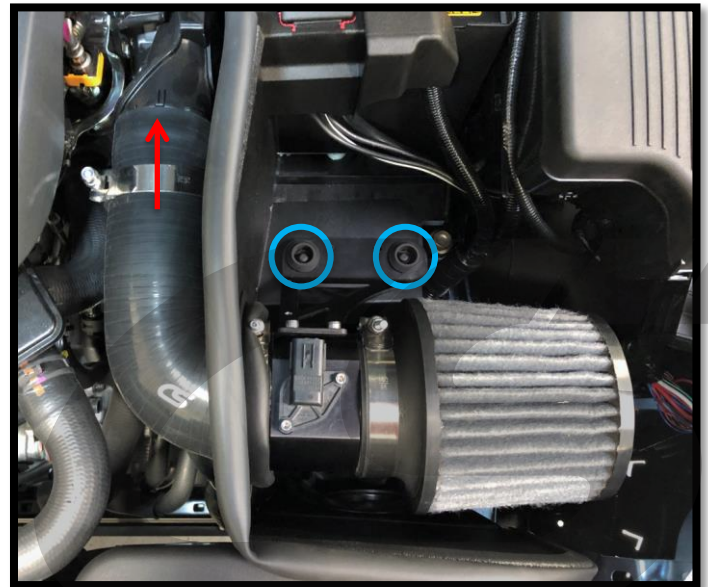

Figure 5l
- o) Push the end of the CS SRI onto the turbo inlet pipe. The **red arrow** in **Figure 5l** shows the direction the SRI silicone must be installed onto the turbo inlet pipe.
- p) Secure the two isolators of the SRI support bracket onto the two plastic studs **circled in blue** in **Figure 5l**.